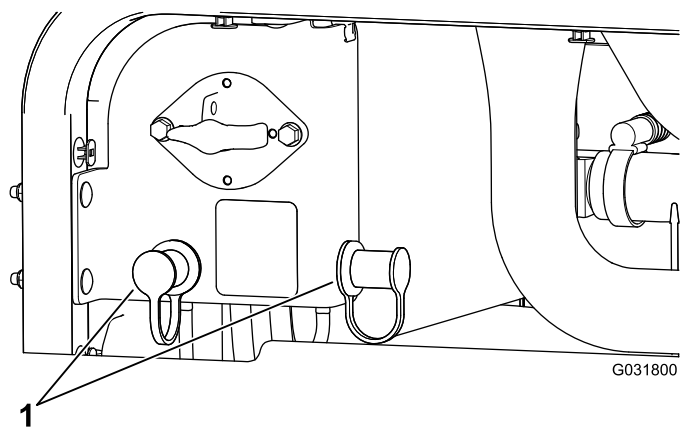

Figure 76
3. Remove the covers from the jump posts (Figure 76).